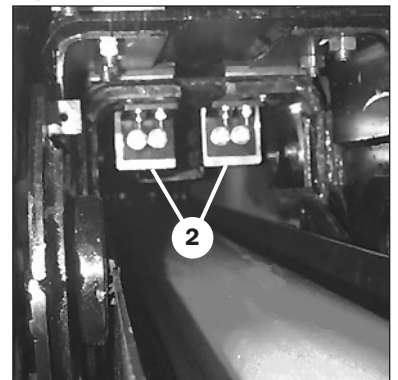

Fig. A1
- Insert the telescoping actuator 3 (Fig. A1) fully.